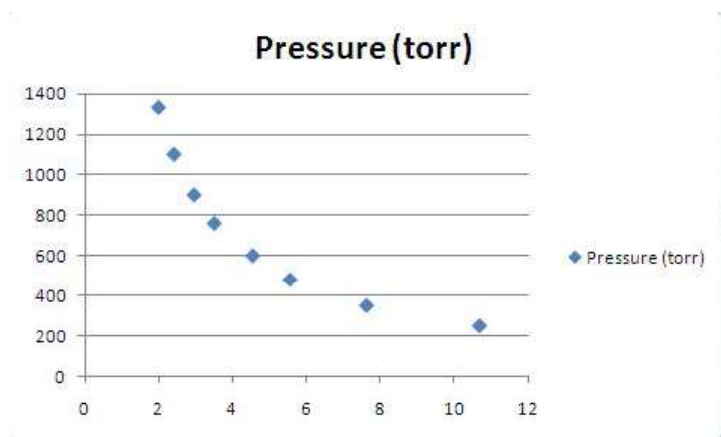

Figure 8.8: Typical Scatter plot generated. credit: author
4. After choosing the scatter plot option, you should be presented with a graph similar to that shown in Figure 8.8. To make the graph easier to work with, you may wish to enlarge the graph by clicking on the corners and dragging.